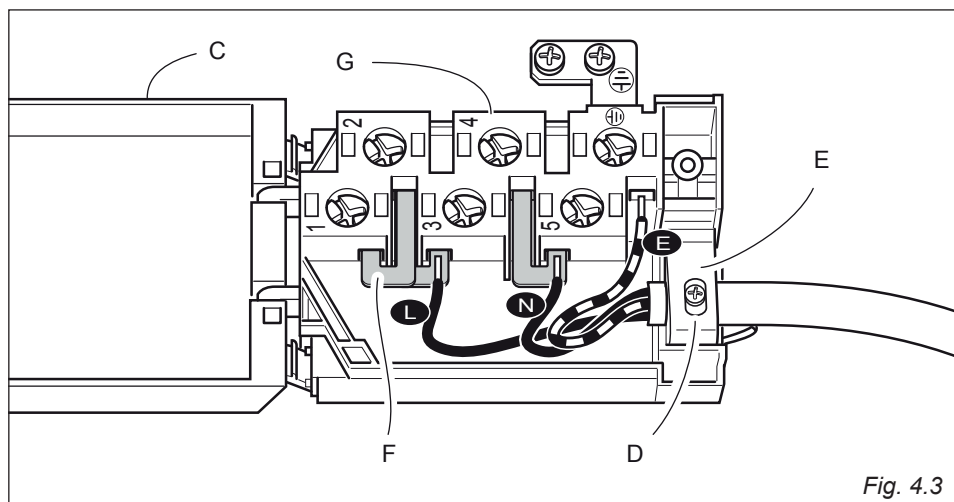

Fig. 4.3
- Unscrew the screw “D” and open completely the cable clamp “E” (fig. 4.3).
- Position the U bolts “F” onto terminal board “G” (fig. 4.3) according to the diagram in fig. 4.2.